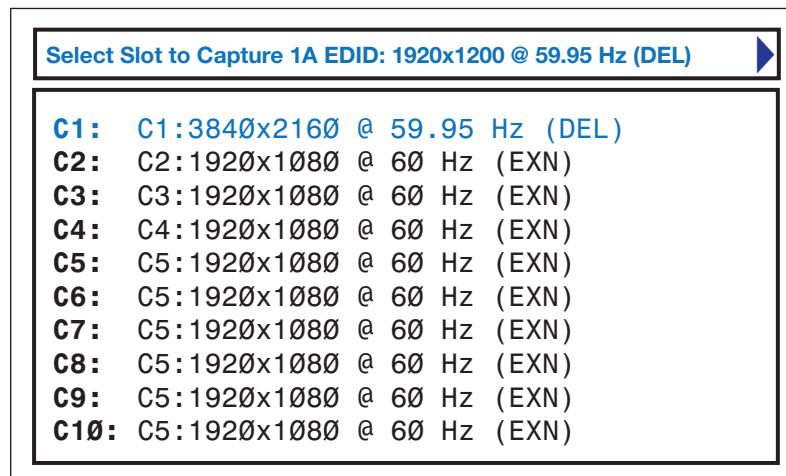

Figure 22. Custom EDID Slots List Example
3. Press the ◀ or ▶ button to display the output to which the selected EDID will be captured. In figure 22, output 1A (HDMI) was selected and appears in the top panel.